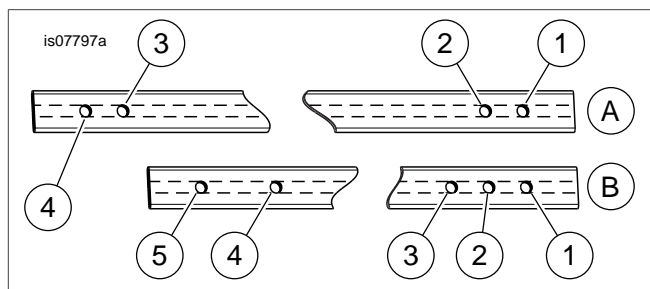

Figure 3. Grab Strap Holes
2. Determine the correct hole choice for the grab strap from Figure 3 and Table 1. Loop the strap so the seam is on the inside and the chosen holes are aligned.
2. Determine the correct hole choice for the grab strap from Figure 3 and Table 1.
- c. Determine the correct hole choice for the **free end** of the grab strap from the smaller number side in Figure 3 and Table 1. A hole from the larger number side was chosen for the end already installed.